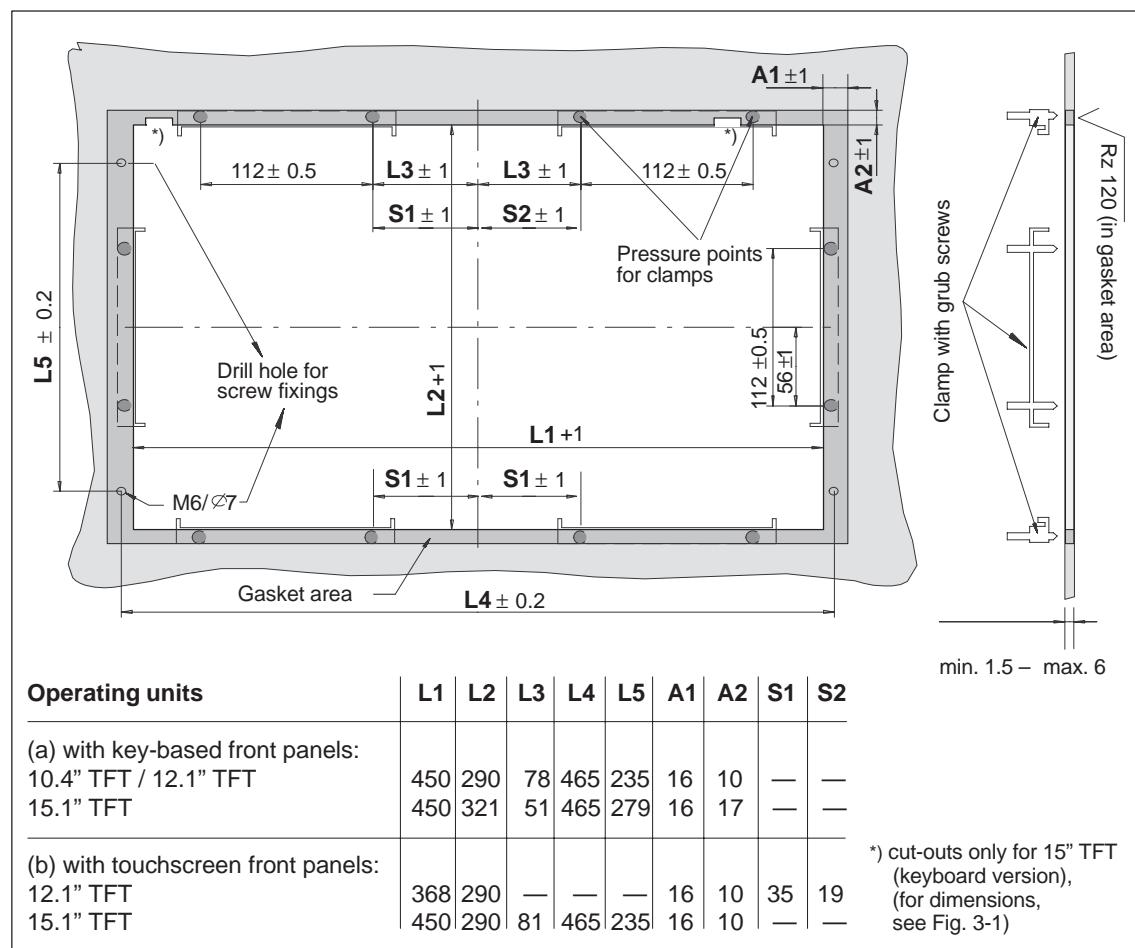

Fig. 3-3 Dimensions for installation of the operating unit of Panel PC 670
2. From the rear, fix the operating unit in position in the mounting cut-out using the six clamps (see Figure 3-3) by tightening the grub screws (torque 0.4 - 0.5 Nm).
1. Drill suitable holes around the prepared mounting cut-out (see Section 3.1) as specified for L4 and L5 in Figure 3-3.
If necessary, you can now remove the operating unit by loosening the six clamps which secure the operating unit to the mounting panel (see Figure 3-3).
3. Loosen the four (retained) knurled screws which secure the computing unit to the rear side of the operating unit (see also Figure 3-3).
If necessary, you can now remove the operating unit by loosening either the screws or, depending on the version, the six clamps which secure the operating unit to the mounting panel (see Figure 3-3).